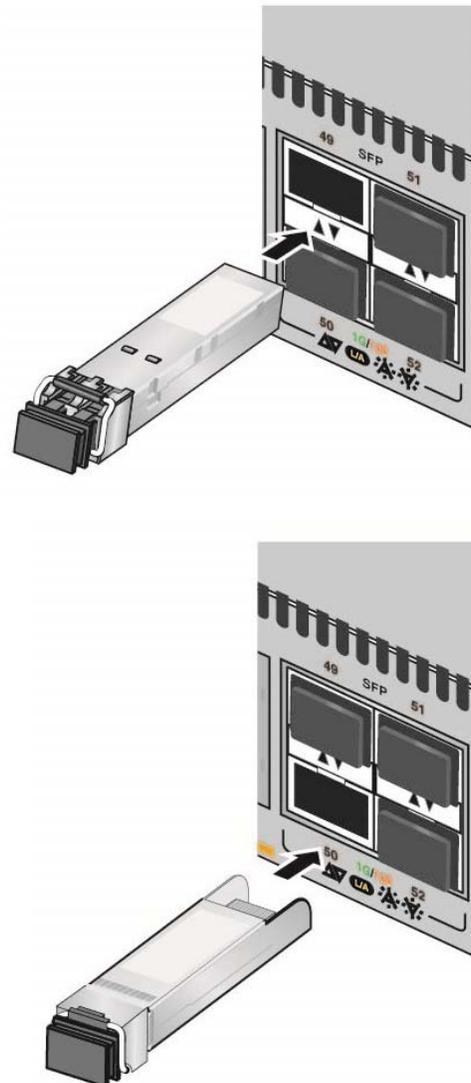

Figure 33. Installing an SFP Transceiver
4. If you are installing the transceiver in a top port, position the transceiver with the Allied Telesis label facing up. If you are installing the transceiver in a bottom port, position the transceiver with the label facing down. Refer to Figure 33 on page 75.